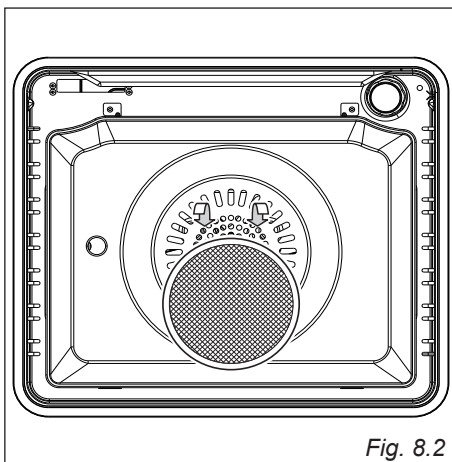

Fig. 8.2
- A special screen is provided at the back of the oven to catch grease particles, mainly when meat is being roasted. Slide in the grease filters on the back of the oven as in fig. 8.2.